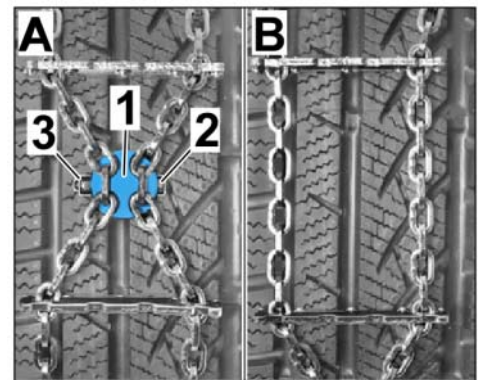

Figure 3
- 1.6.1 To "shorten" the snow chain (⇒ *Figure 3-A-*):
- 1.6.2 "Extend" snow chain (⇒ *Figure 3-B-*):